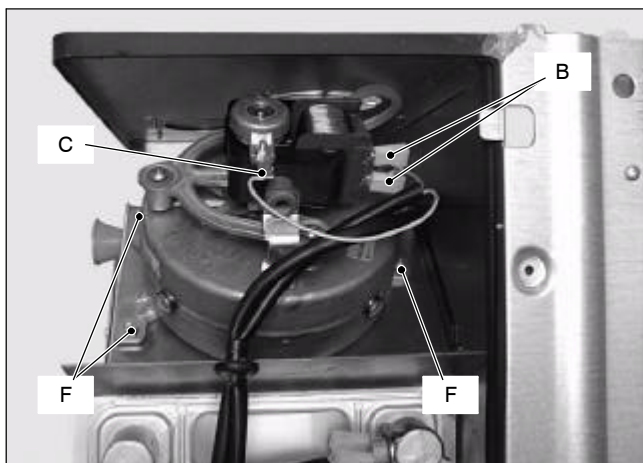

Fig. 66
- 2 Disconnect the connectors B (Fig. 66) and measure the electrical resistance of the motor that has to be about:
- 2 Disconnect the connectors B and the earth connection C (Fig. 66).
- 5 Remove the three screws F (Fig. 66) securing the Fan to the flue hood and remove the fan.